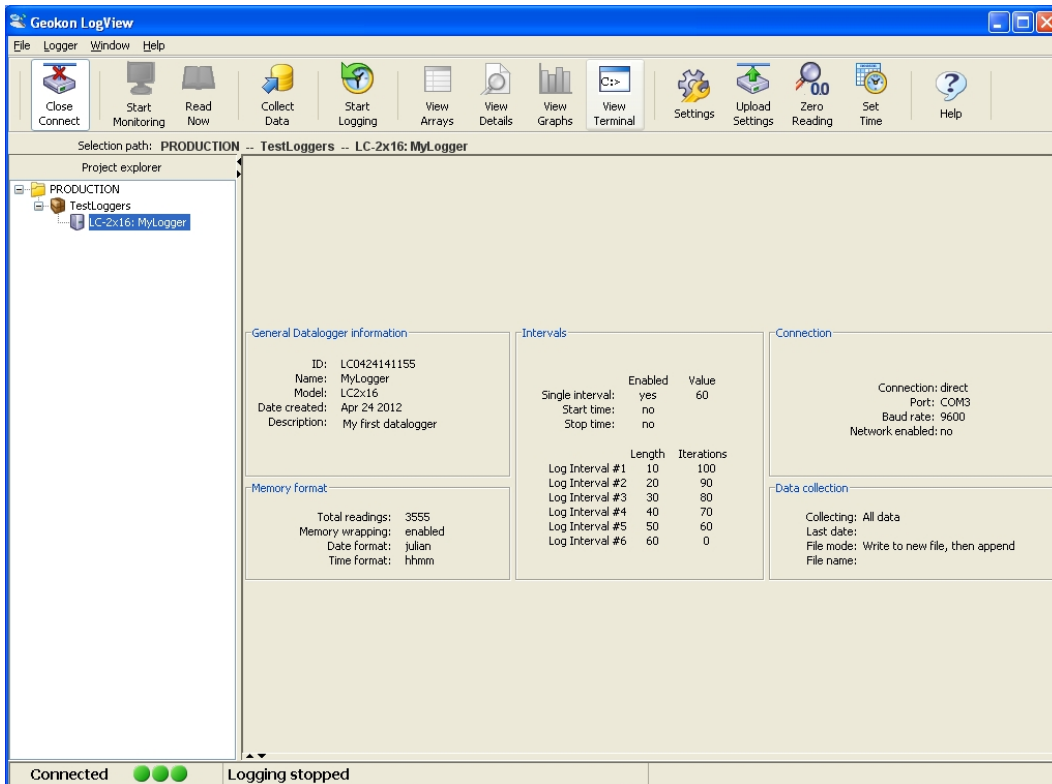

Figure 12 - Datalogger Connected
- 3) Click on the “**Upload Settings**” button on the LogView Toolbar to synchronize the datalogger with the LogView configuration (see Figure 12).